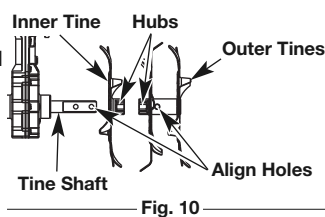

Fig. 10
5. Slide on the new tines with the hubs facing each other (Fig. 10).
NOTE: Make sure the single tine goes on the tine shaft first with the double tines on the outside and holes on the outer tines are aligned with the outer hole on the shaft (Fig. 10).